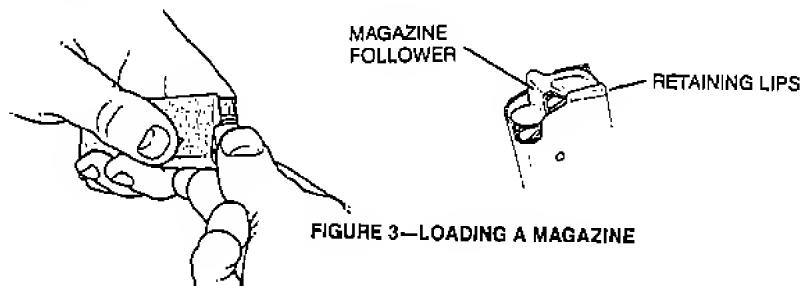

FIGURE 3—LOADING A MAGAZINE
3. With open end uppermost, grasp magazine in one hand. Place a round on magazine follower with base just forward of retaining lips (see Figure 3). Press round down and back until base of round touches rear flat edge of magazine. Place next round on top of previous round and press down and back. Repeat until magazine is loaded, but do **NOT** exceed its capacity. For magazine capacity, see Section 2—Main Features.